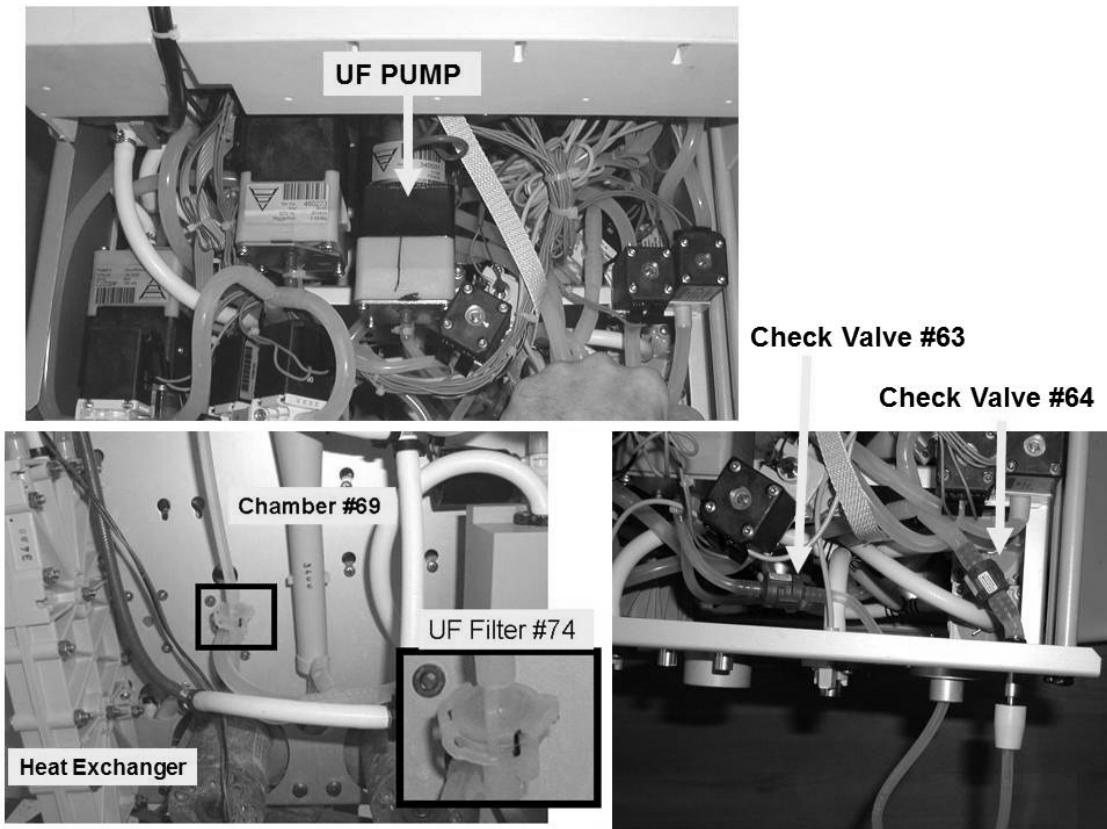

Figure 85 – Hydraulics Top / Front Views
- Staying in **RINSE** and referring to Figure 85 (page 503), TWO (2) checks: